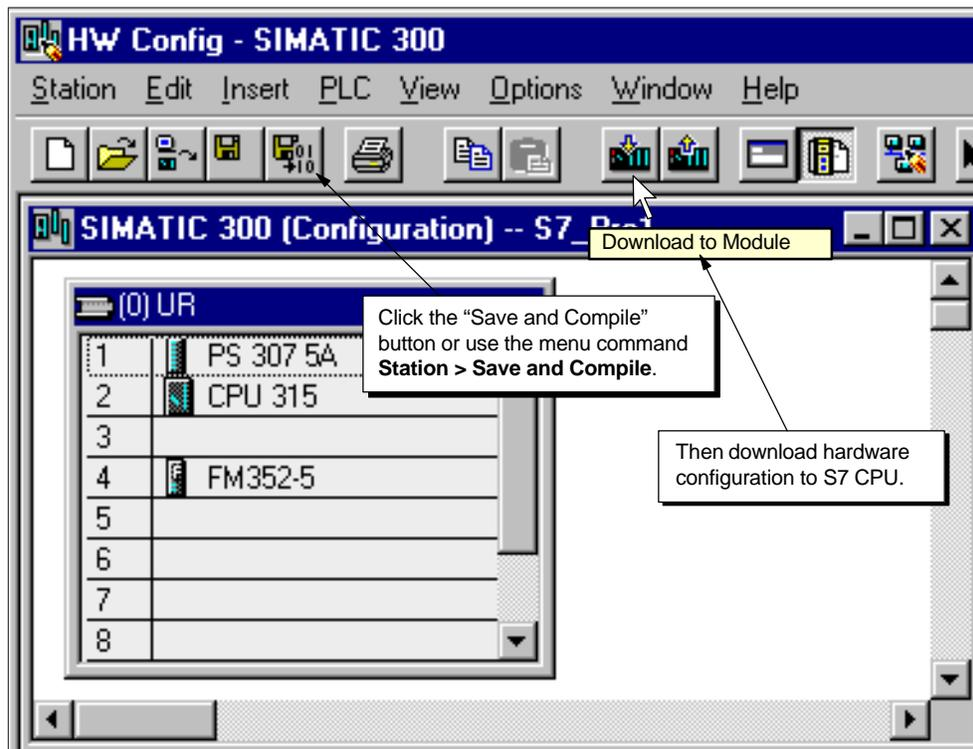

Figure 5-7 Saving and Compiling the Hardware Configuration
2. Click the "Save and Compile" button or use the menu command **Station > Save and Compile** in the HW Config main screen, as shown in Figure 5-7.
3. Download the compiled module configuration to the S7 CPU by clicking on the "Download to Module" button or use the menu command **PLC > Download...** in the HW Config main screen, as shown in Figure 5-7.